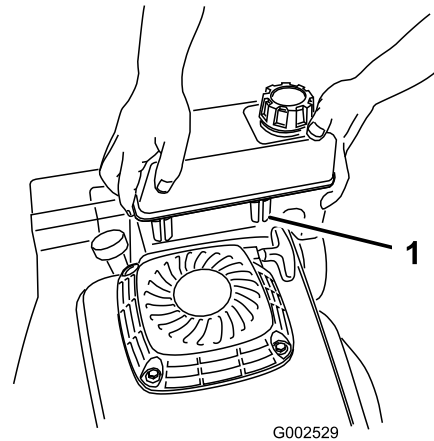

Figure 5
- Slide the plastic clips on the front of the fuel tank onto the fuel tank mount (Figure 5).